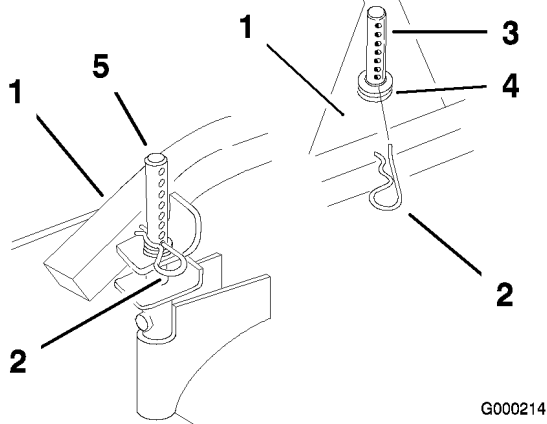

Figure 23
1. Select hole in height-of-cut post and number of spacers corresponding to the height-of-cut desired (Figure 23).
2. Using the lift handle, raise side of deck and remove hairpin cotter (Figure 23).
3. Add or remove spacers if needed and then align holes and insert hairpin cotter (Figure 23).